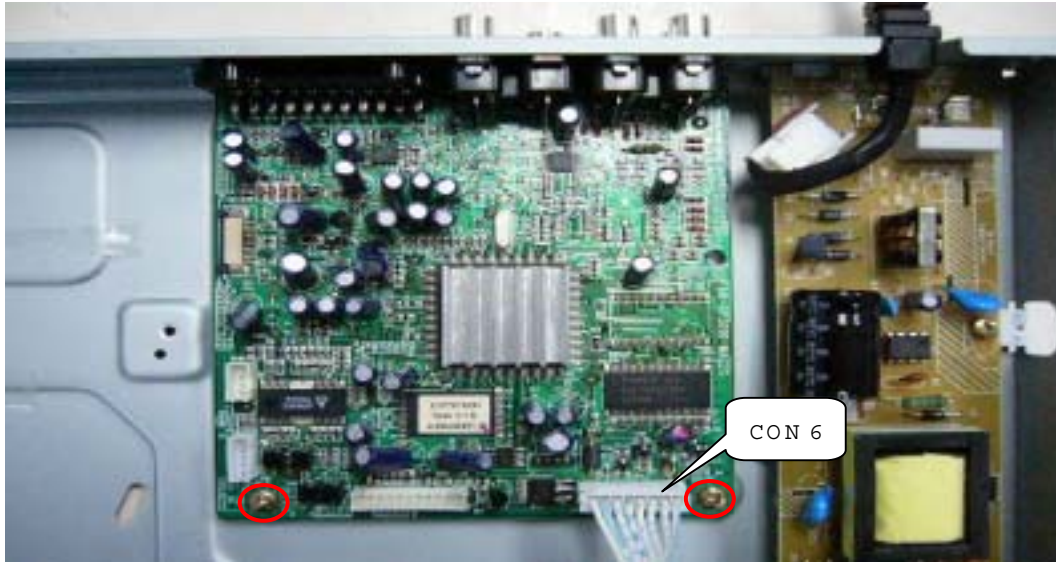

Figure 7
Step6: Dismantling Main Board, first disconnect the connector; and then remove the relative screws, (Figure 7)